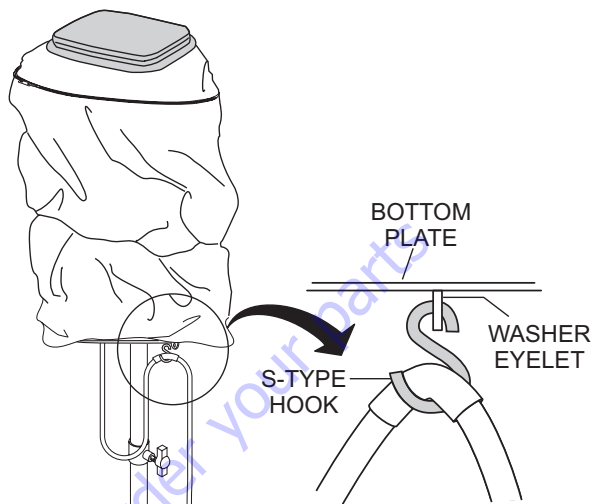

**Figure 9. Removing Balloon/AC Power Cord**
2. Unsnap the three buttons on the bottom of the balloon. Expose the balloon by pulling down on the velcro tab and unzip the protective cover as shown in Figure 9. Also remove the AC power cord at this time.